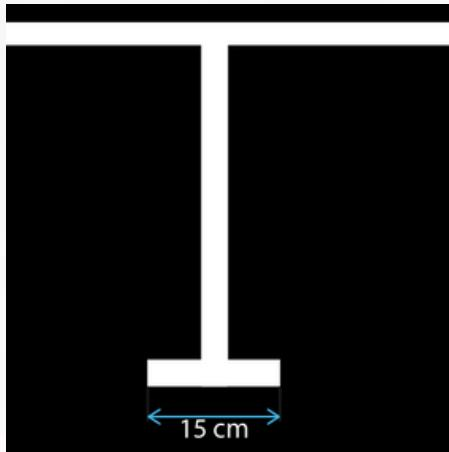

Figure 5 - End of line
- End-of-line indicators will follow the dimensions and layout specified in Figure 5.